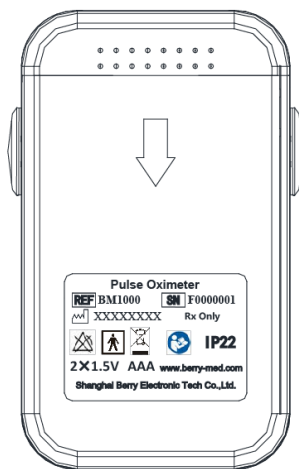

Figure 2
1. Hold the product in one hand with the front panel facing the palm. Put the other hand's big finger on lid's press sign of the battery compartment, press downwards and push the lid and open it at the same time. The battery compartment is opened as shown in **Figure 2**.